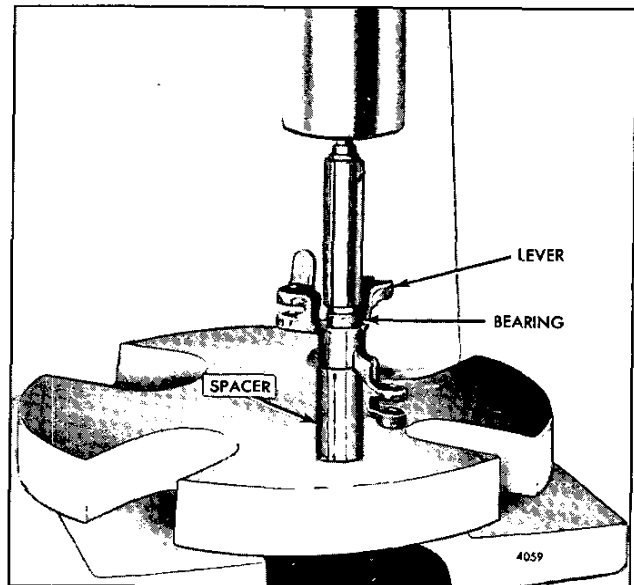

Fig. 15 - Installing Bearings in Control Link Lever Using Tool J 21068
11. Support the control link lever on a steel spacer on the bed of an arbor press. Start one bearing, number side up, in the lever and press it flush with the lever with tool J 21068 (Fig. 15). Invert the lever and install the second bearing in the same manner.